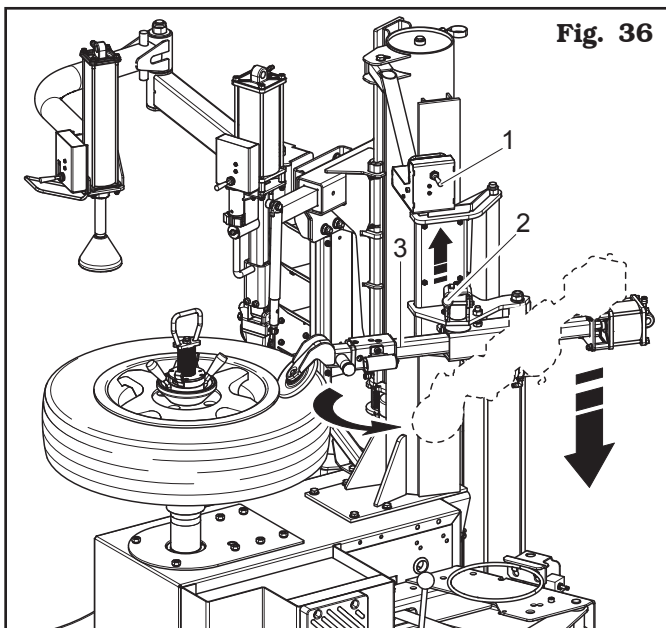

Fig. 36
4. Once bead breaking has been completed in the upper part, disengage the roll from the rim moving the lever (Fig. 36 ref. 1) upwards. Press the lever (Fig. 36 ref. 2) to allow the bead breaker arm roll (Fig. 36 ref. 3) to open outwards and get out of the wheel way. Use again the lever (Fig. 36 ref. 1) to bring the bead breaker arm roll downwards to a lower height than the one of the tyre.